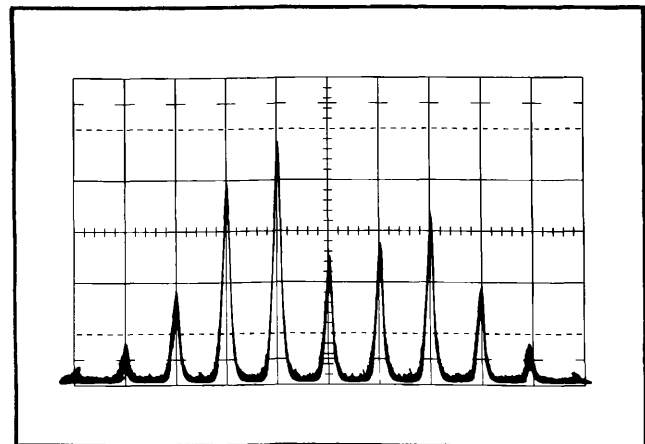

Fig. 4-5. A 5-mc signal modulated with a 2-kc audio signal. DISPERSION-KC/CM switch set at 2.
8. Set the output amplitude of the audio generator and the controls on the Harmonic Modulator Unit for maximum modulation (maximum number of side-frequency markers). See Fig. 4-5 for the desired display.